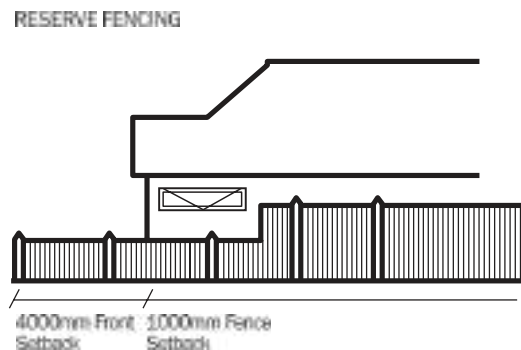

FIGURE 2
- 10.4 Fencing to side streets (corners) and reserves must finish a minimum of 4 metres behind the main building alignment (Refer Figure 2). Fencing forward of 4 metres behind the main building alignment must be a maximum of 1 metre.